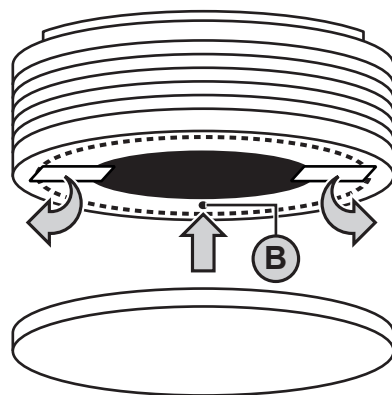

Figure 2
- Press out activation button (B) with an object (e.g. a screwdriver) in direction of the magnetic carrier (fig. 2). Device is deactivated.